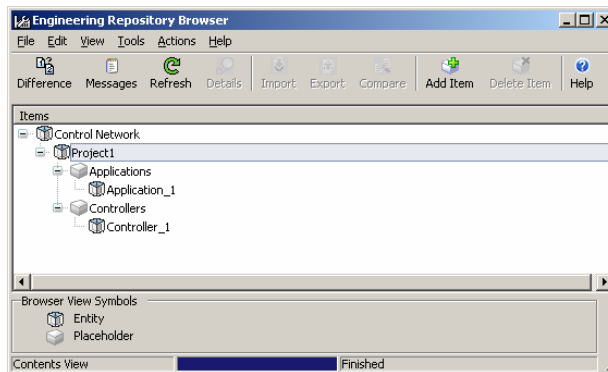

Figure 253. Engineering Repository Browser - Content View
- The Contents View is used to view what are in the Engineering Repository. It is possible to view the repository on an entity level. The entities are located in a tree structure on an entity level as shown in Figure 253.